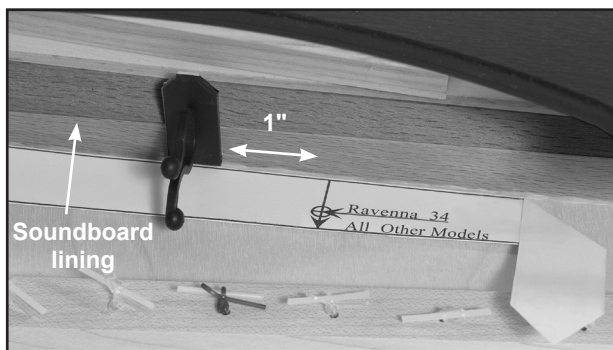

Figure 4 – Marking Template pointing at high F
4. Place the template on the soundboard with the edge against the soundboard lining on the left side of the harp. The lining is the strip of wood that covers the joint between the soundboard and the side of the harp. Position the template so the folded end points directly at the highest F (blue) string (see figure 4). Tape the template in place. (If you have a non-Dusty harp, see the sidebar on the right for more info.)
1. **For all Dusty Strings models except FH36S:** Mark an 'X' on the soundboard lining approximately 1" toward the base of the harp from each element location (see figure 4). This location is approximate, and can be adjusted as needed.